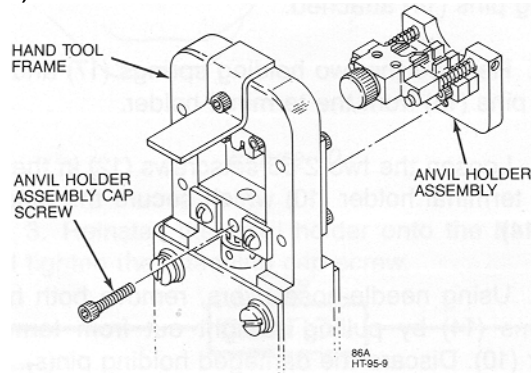

Figure 12
1. Using the 7/64-inch Allen wrench, remove the cap screw securing the anvil holder assembly to the hand tool (see Figure 12). Then remove the anvil holder assembly.